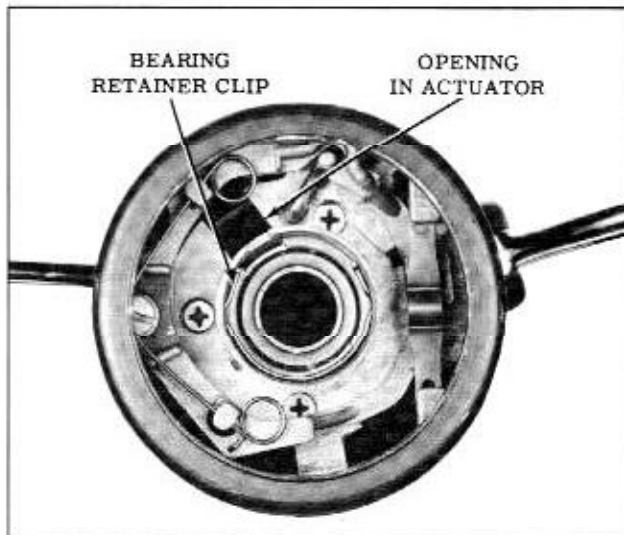

Fig. 4-8 Bearing Retainer Position
2. Install bearing retainer clip in the actuator assembly aligning retainer as shown in Fig. 4-8.
7. Using a small screw driver pry the upper bearing to actuator assembly retaining clip out of the actuator housing. (Fig. 4-8).